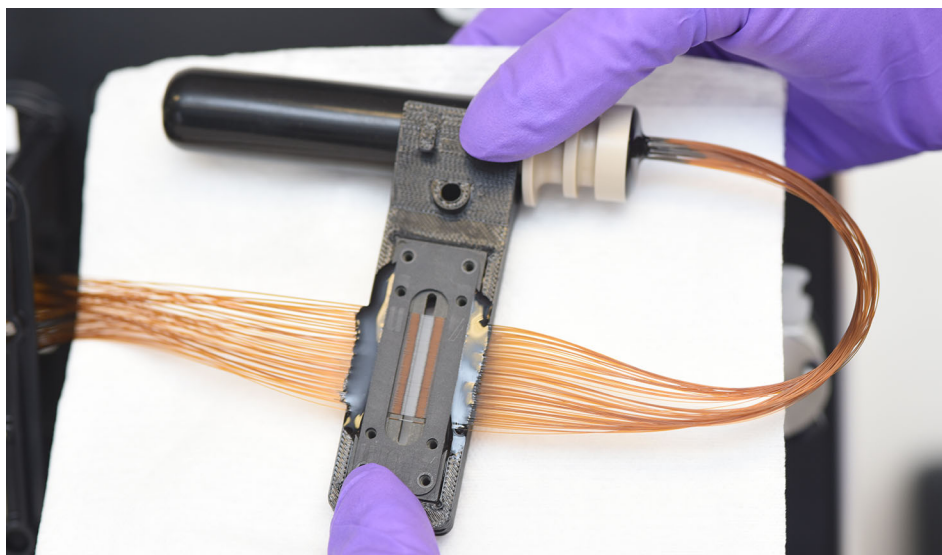

Figure 109 Capillary array window with paper towel behind
- 6 Place a paper towel behind the capillary array window as shown in **Figure 109**.